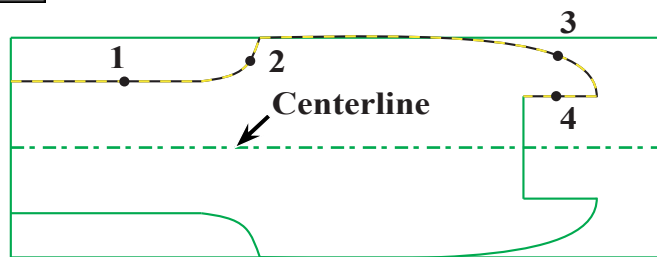

Fig. 14
Step 2. Click **splines and lines** and click **End Selection**  (ENTER), Fig. 14.
Click **centerline**, Fig. 14